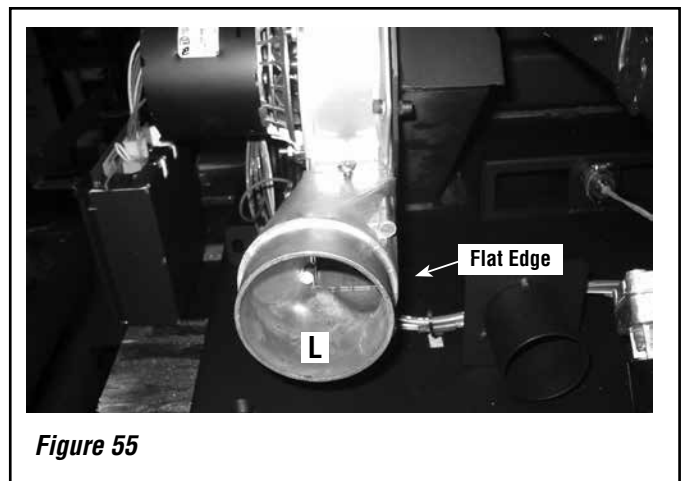

Figure 55
- When installing the rear vent adaptor (L), ensure that the flat edge is directed towards the inside of the stove (see **Figure 55**).